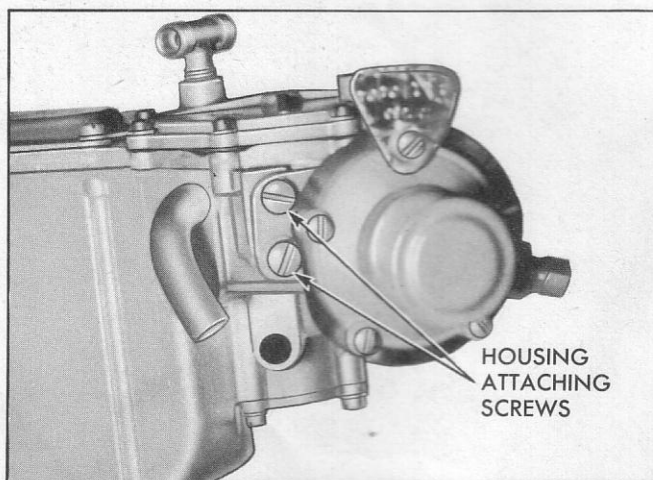

Fig. 42—Removing Enrichment Housing Attaching Screws
4. Remove enrichment control rod clip at ratio lever, remove 2 enrichment housing attaching screws (fig. 42), remove enrichment housing and cranking signal valve from fuel meter.